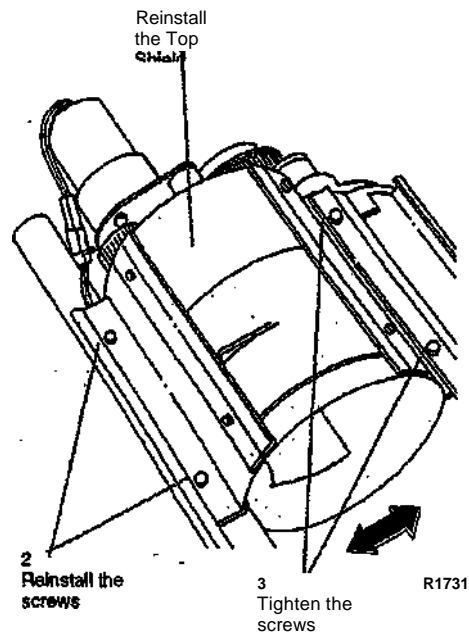

Figure 12. Reinstalling the Top Shield
19. (Figure 12): Reinstall the Top Shield, rear edge first.